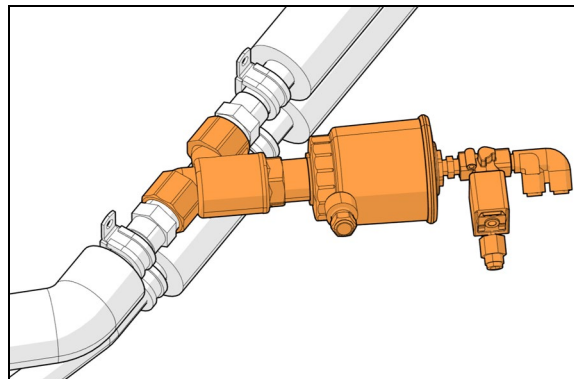

FIGURE 87: DRIVER UNIT HOT WATER PNEUMATIC VALVE ASSEMBLY
The flow of hot water to the driver unit heater core is controlled by a normally-open (NO) pneumatic valve like. The valve, located at the ceiling of the spare wheel compartment (Figure 87), is designed so that the pilot solenoid valve, which is part of the assembly, opens and closes a port which directs air pressure to the actuator casing, thereby opening or closing the valve.
2. Locate the normally open hot water pneumatic valve on the ceiling of the spare wheel compartment (Figure 87), disconnect its wiring connector, and then connect a 24-volt external power source, using jumper cables, to close valve.